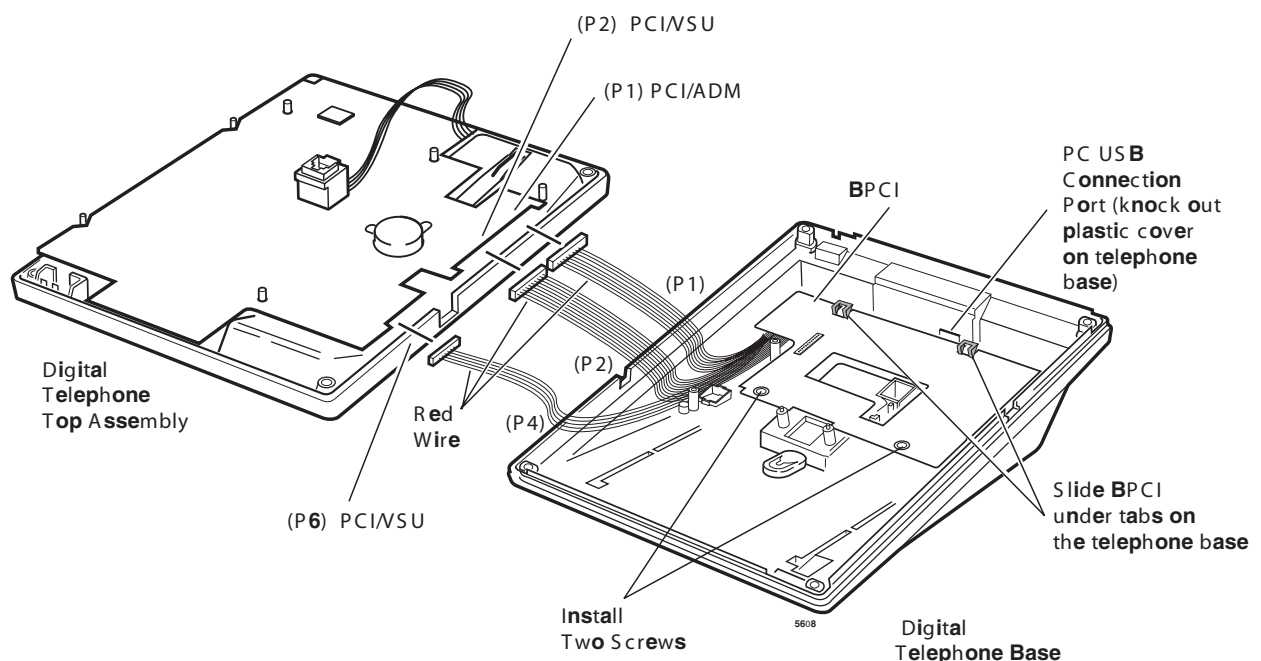

Figure 7-10 BPCI Installation
1. Loosen the four captive screws on the digital telephone base to remove it. Knock out the plastic cover on the telephone base to provide access to the BPCI USB port. See Figure 7-10.
2. Refer to Figure 7-10 and install the BPCI inside the phone base. Secure with screws.